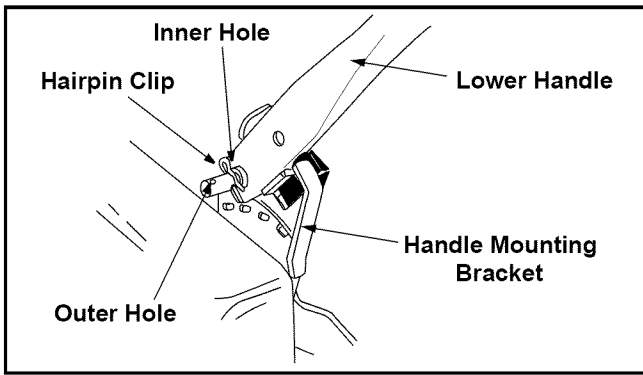

Figure 4
- Remove the hairpin clips from the outer hole in the weld pins on the handle mounting brackets. Refer to Figure 4.